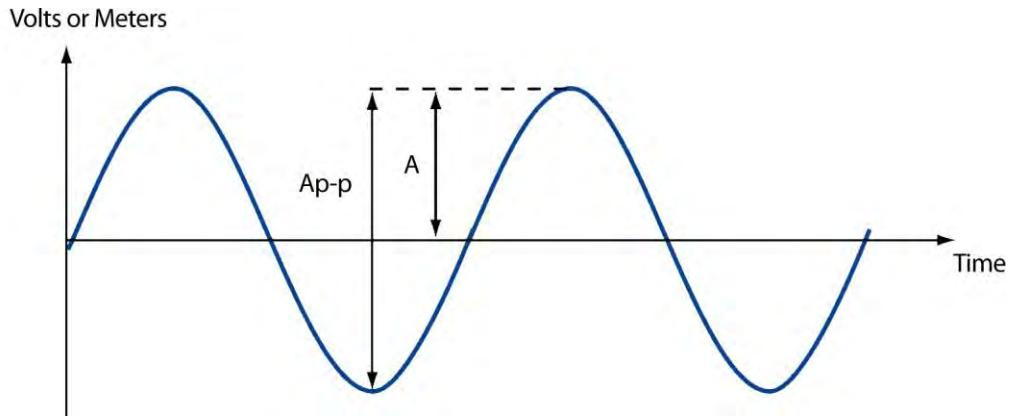

Figure 6.2 AmpDef. The amplitude, A , and peak-to-peak amplitude, $Ap-p$, for a sinusoidal signal
This is the size of the oscillating signal. There are a number of common definitions for this value. The amplitude (A) is compared to the peak-to-peak amplitude (A_{p-p}) as seen in Figure 6.2. For a signal symmetric about mean, as is the case for a sine wave, the amplitude is $\frac{1}{2}$ of the magnitude of the peak-to-peak amplitude.